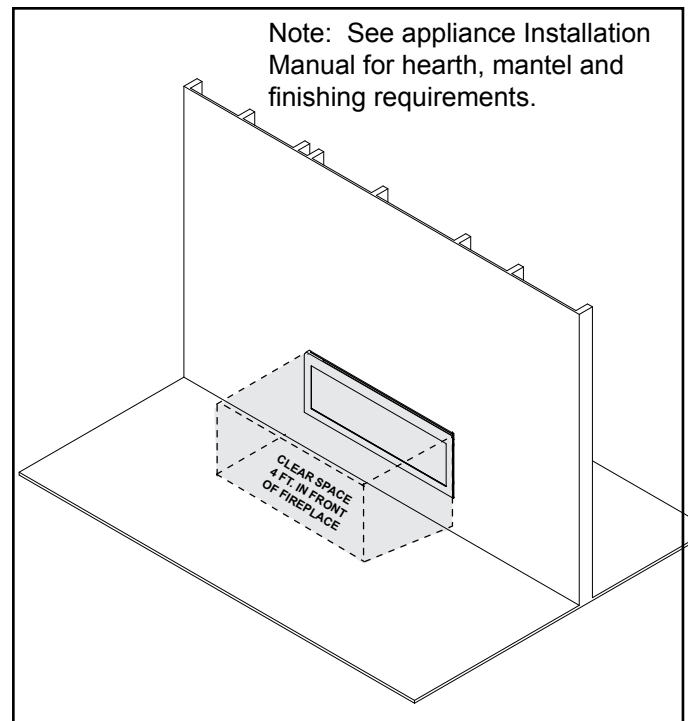

Figure 3.1 Clear Space
**WARNING! DO NOT place combustible objects in front of the fireplace or block louvers. High temperatures could start a fire. See Figure 3.1.**